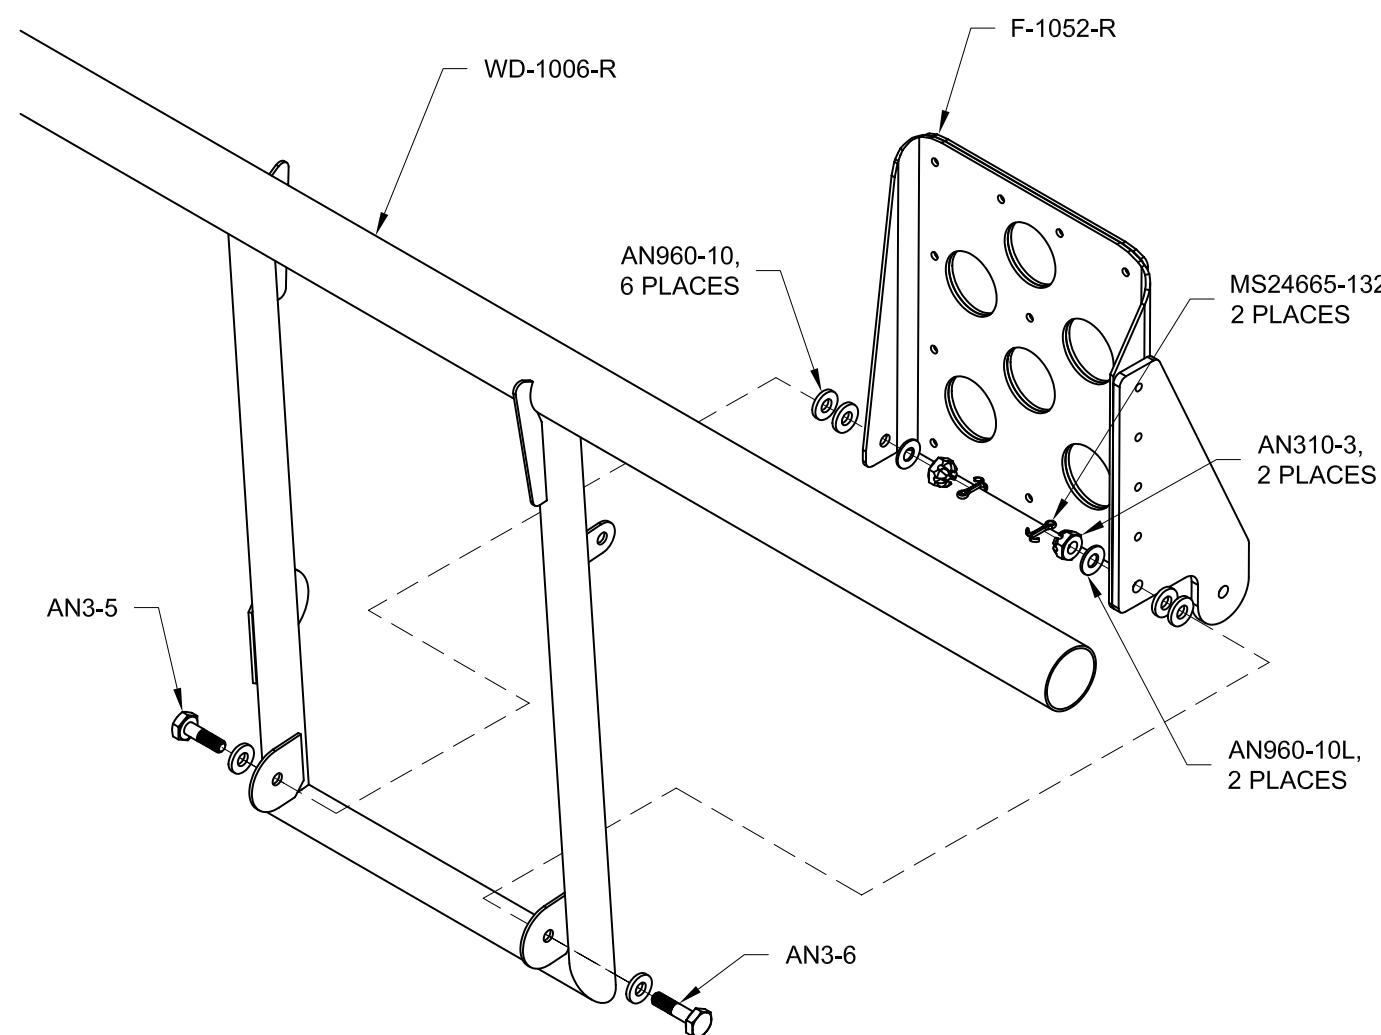

FIGURE 1: BRAKE PEDAL INSTALLATION
NOTE: It may be necessary to use a different mix of AN960-10 and AN960-10L washers than shown in the hardware callouts given in Figure 1. It is important that the brake pedals move freely with no friction to prevent a dragging brake. Use a plastic hammer to "slightly" adjust the brake pedal mounting ears if required.
Step 2: Attach the F-1052-R Brake Pedal Subassembly to the WD-1006-R Rudder Pedal Right using the hardware called out in Figure 1.